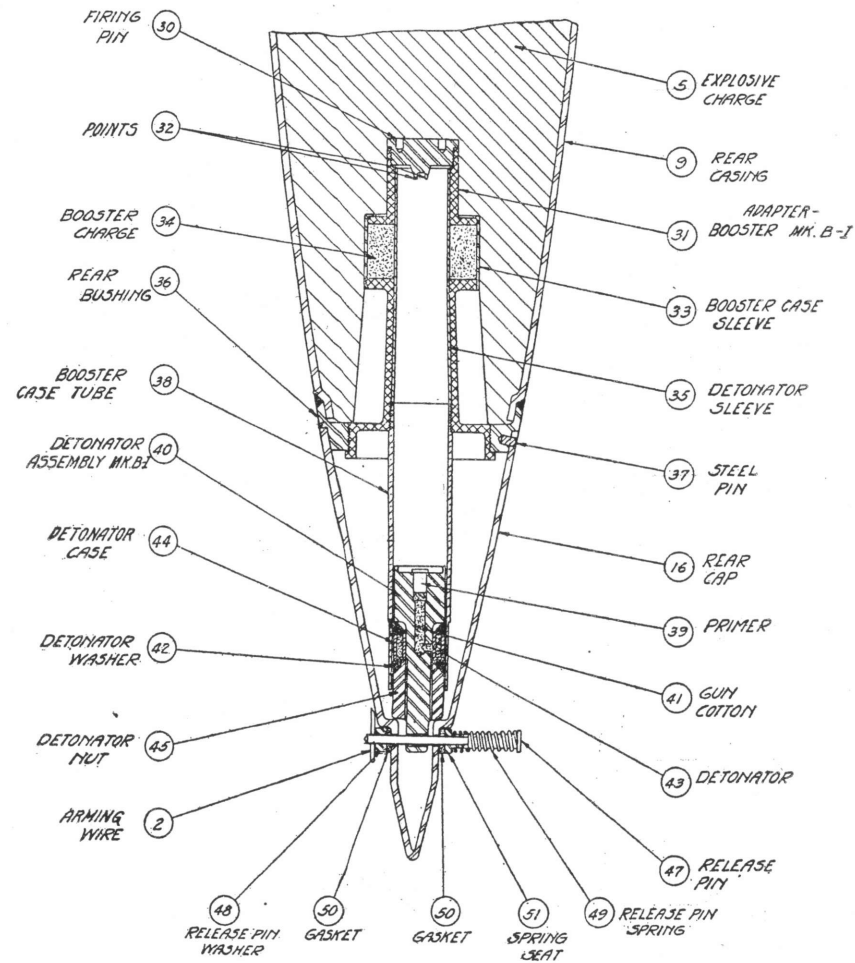

FIG. 3.
The Mark I bomb fuse (see fig. 3) operates as follows: Upon withdrawal of the arming wire (2) the spring (49) ejects the release pin (47) and thereby liberates the detonator assembly (40). This slides down in the booster case tube (38) and seats—cushioned by trapped air—within the detonator sleeve (35), with the primer (39) resting on the points (32). Impact of the bomb causes the detonator assembly to prime itself against the points of the firing pin by momentum. The flash of the primer ignites the guncotton (41) and thereby causes the detonation of the fulminate of mercury (43) of the detonator. Since at this time the detonator is opposite the booster charge (34), the latter is detonated, causing the detonation of the explosive charge.
The Mark I bomb fuse (see fig. 3) operates as follows: Upon withdrawal of the arming wire (2) the spring (49) ejects the release pin (47) and thereby liberates the detonator assembly (40). This slides down in the booster case tube (38) and seats—cushioned by trapped air—within the detonator sleeve (35), with the primer (39) resting on the points (32). Impact of the bomb causes the detonator assembly to prime itself against the points of the firing pin by momentum. The flash of the primer ignites the gun cotton (41) and thereby causes the detonation of the fulminate of mercury (43) of the detonator. Since at this time the detonator is opposite the booster charge (34), the latter is detonated, causing the detonation of the explosive charge.